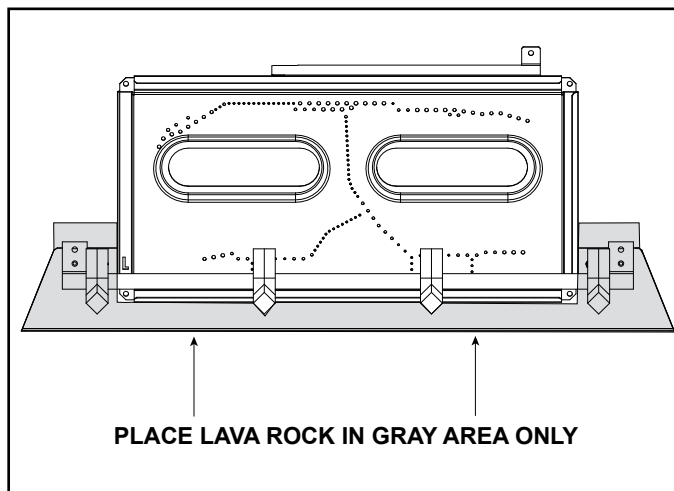

Figure 11.7 Placement of Lava Rock
- Place lava rock in front of and to the sides of the burner. See Figure 11.7.